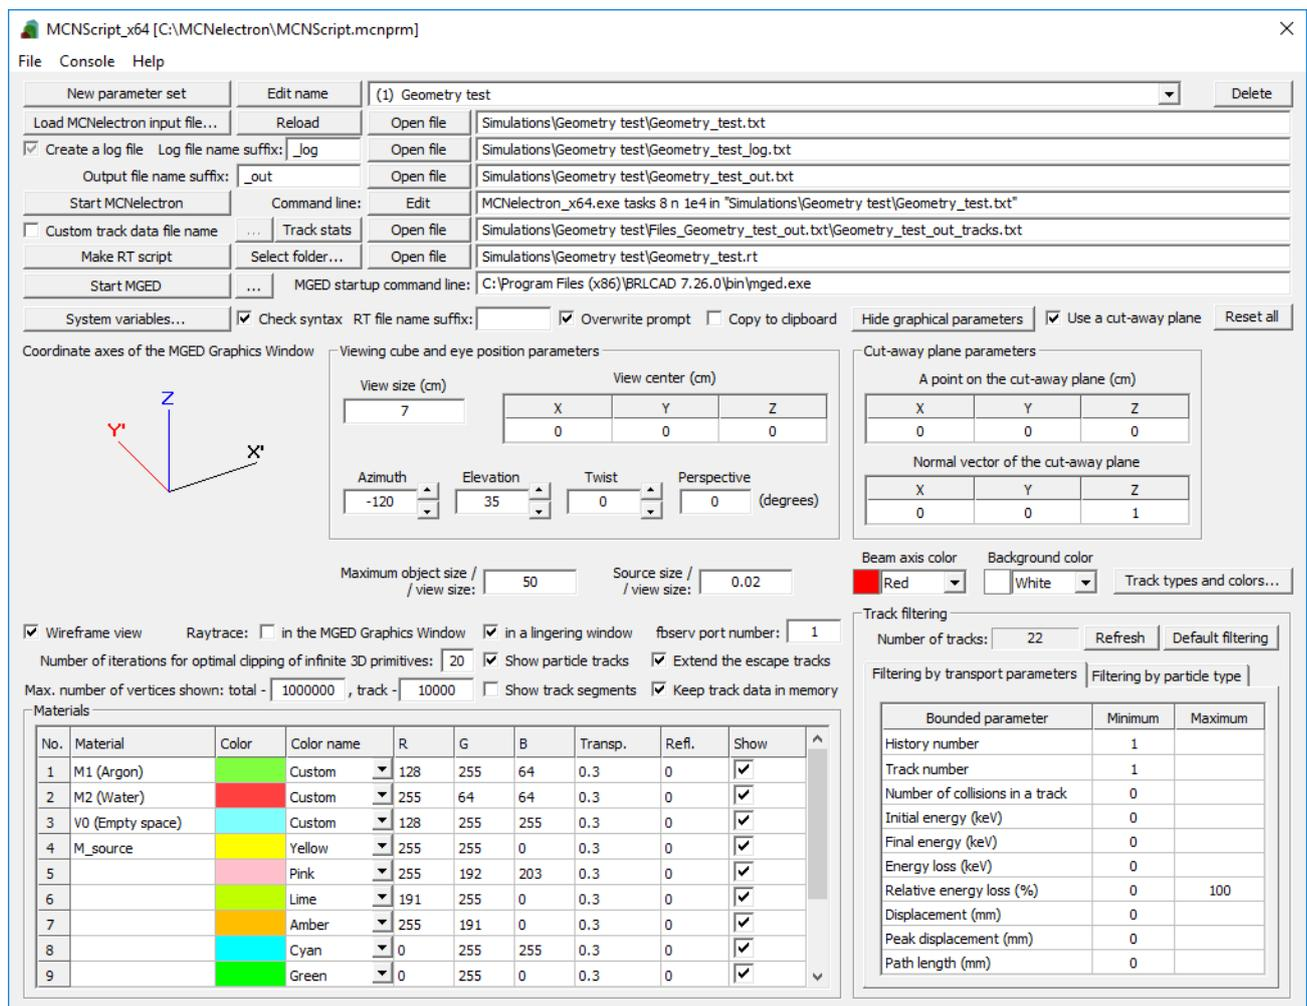
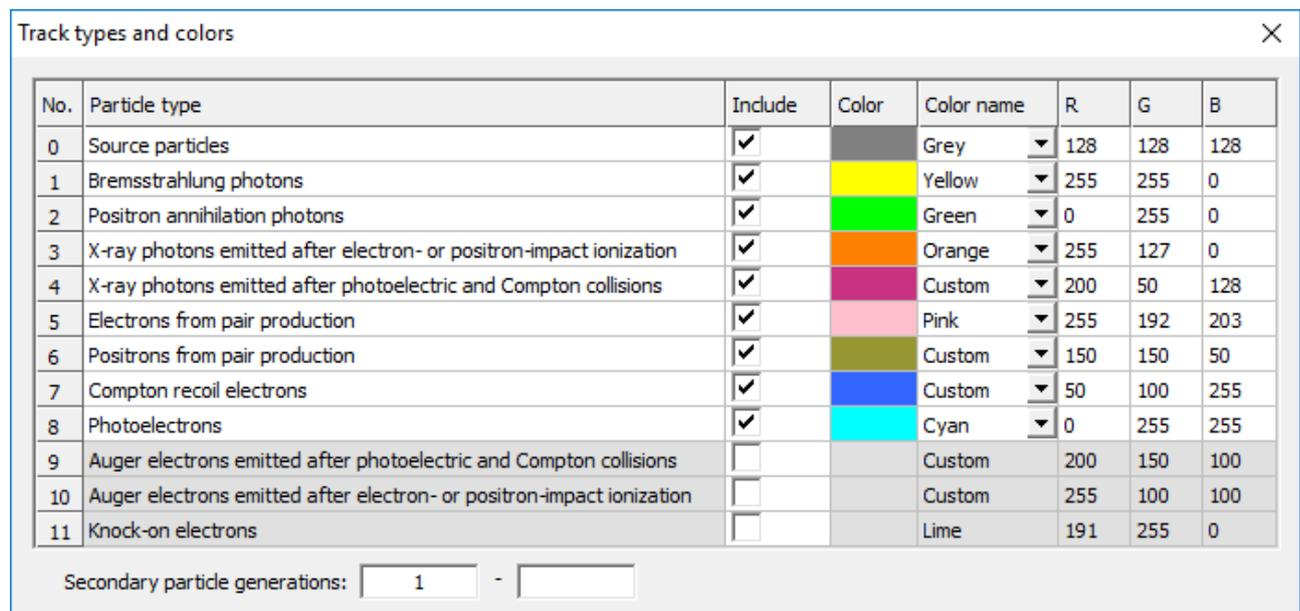

Fig. 2.1. An example of the MCNScript main window.
Fig. 4.3. An example of the dialog window “Track types and colors”.
MCNScript is started by running the executable file MCNScript.exe or MCNScript\_x64.exe (the former is 32-bit, the latter is 64-bit). The main window of MCNScript shows the names of MCNelectron input and output files, the MCNelectron command line and various graphical parameters. All displayed parameters form a “parameter set”. Parameter sets can be selected, created, deleted or renamed using the top row of controls (see Fig. 2.1).
The data of all parameter sets are stored in an ASCII file with extension “.MCNPRM”. Further on, this file will be called “parameter file”. The name of the current parameter file is shown in the title bar of the main window (see Fig. 2.1). Parameter files can be opened or saved using the “File” menu. The name of the parameter file can be specified on the command line used to start MCNScript. If MCNScript is started without any command-line arguments, the parameter file will be assigned the default name “MCNScript.mcnprm” (if there is a file with that name in the folder where the executable file “MCNScript.exe” is located, then it will be opened automatically, otherwise it will be created).
Although the main function of MCNScript is running the simulations with MCNelectron and setting up the initial view of the simulated system geometry and particle tracks in the MGED window, it can also perform elementary statistical analysis of the particle track data calculated by MCNelectron, as well as filter the particle tracks according to various criteria. The calculated track statistics are shown in a dialog window that is opened by clicking the button “Track stats”, which is in the sixth row of controls of the MCNScript main window (see Fig. 2.1). The same dialog window contains two tabs with the data used for track filtering (those tabs are duplicated at the bottom right of the MCNScript main window). The tab “Filtering by transport parameters” contains a grid control with transport parameters (this tab is the active one by default; it is visible in Fig. 2.1), and the tab “Filtering by particle type” contains a set of controls for selecting the types of secondary particles for calculation of the statistics and for display in the MGED Graphics Window.
The graphical parameters control the initial view of the system geometry and particle tracks after loading the RT script created by MCNScript. The view may be modified afterwards using various MGED commands or by re-creating the RT script with a different set of graphical parameters and then reloading it in MGED. The graphical parameters occupy the bottom two thirds of the MCNScript main window (see Fig. 2.1). They can be hidden using the button “Hide graphical parameters”. After clicking this button, the text on it changes to “Show graphical parameters” (see Fig. 2.2). After clicking this button again, the MCNScript main window will be restored to its initial size (with the graphical parameters shown). If an invalid value is entered in any of the numerical text boxes, the previous value is restored. The button “Reset all” (see Fig. 2.1) is used to set all graphical parameters to their default values.
The names of the MCNelectron input file, log file and output file are shown in the three text boxes that are at the end of the second, third and fourth row of controls of the MCNScript main window (see Fig. 2.1). The remaining command-line arguments can be specified in the dialog window “MCNelectron command-line arguments”, which is opened by clicking the button “Edit”, which is in the fifth row of controls (see Fig. 2.1). An example of that dialog window is shown in Fig. 3.1.
By default, the name of the MCNelectron output file is formed by appending the suffix “\_out” to the name of the MCNelectron input file. If this suffix is specified, then the name of the output file will be omitted from the command line (see Fig. 2.1). The mentioned suffix can be modified in the text box “Output file name suffix” (see Fig. 2.1 and Fig. 3.1). If that text box is cleared of any text, then it becomes possible to enter an arbitrary name of the MCNelectron output file directly in the text box where that file name is shown (in this case, the output file name will be specified on the command line, even if that name is the same as the default name). The file name suffix may include the two-character string “%d”, which has a special meaning: if it is present, then it will be replaced by the sequence number of the current parameter set (this number is shown in parentheses before the name of the parameter set in the dropdown list, which is at the top of the MCNScript main window).
By default, the log file name is formed by appending the suffix “\_log” to the name of the MCNelectron input file. This suffix can be modified in the text box “Log file name suffix” (see Fig. 2.1 and Fig. 3.1). In all other respects, the name of the log file is treated in the same way as the name of the output file (see the previous paragraph). The log file name may be specified on the command line only when the tri-state checkbox “Create a log file” is checked or when it is indeterminate (as in Fig. 2.1). This checkbox corresponds to the MCNelectron command-line argument “writeLog”. If that checkbox is indeterminate, this keyword will be omitted from the command line, i.e., the corresponding parameter will be assigned the default value. The checkbox “Create a log file” is duplicated in the MCNScript main window (see Fig. 2.1).
The button “System variables...” (see Fig. 3.1) is used to open the dialog window where the values of the MCNelectron system variables may be specified (see Fig. 3.2). Those variables may be used in the user programs embedded in the MCNelectron input file (see the MCNelectron user manual for details). The “System variables” dialog window is modeless, which means that it may be kept visible while interacting with the other windows of the MCNScript graphical user interface. The button “System variables...” is also present in the MCNScript main window (see Fig. 2.1).
The entire MCNelectron command line is shown in the text box at the end of the fifth row of controls of the MCNScript main window (see Fig. 2.1).
The specified MCNelectron input and output files can be opened by clicking the buttons “Open file”, which are to the left of the text boxes with the file names (see Fig. 2.1 and Fig. 3.1). This action is equivalent to double-clicking the file name in the Windows File Explorer.
After specifying the names of input and output files and entering all other necessary command-line arguments, a Monte Carlo simulation can be started. This is done by clicking the button “Start MCNelectron”, which is at the beginning of the fifth row of controls of the MCNScript main window (see Fig. 2.1). After clicking this button, the Windows command-line interpreter “cmd.exe” window is opened, where all messages of MCNelectron are output (see Fig. 3.3). After finishing the simulation run, the corresponding cmd.exe window is not closed automatically (it must be closed manually). While the cmd.exe window is open, the text on the button “Start MCNelectron” is changed to “Activate the cmd.exe window” (see Fig. 3.3). Afterwards, if the cmd.exe window is minimized or covered by other windows, this button can be used to bring it to the foreground. Each created cmd.exe window is “attached” to the corresponding parameter set. If there are several cmd.exe windows, each of them can be activated by selecting the corresponding parameter set and then clicking the button “Activate the cmd.exe window”. After closing the cmd.exe window, the text on the mentioned button becomes “Start MCNelectron” again. It is possible to “detach” a cmd.exe window from the current parameter set. This is done by right-clicking the button “Activate the cmd.exe window” and selecting “Reset this button” from the context menu. Then the text on that button becomes “Start MCNelectron” again. Afterwards, it will be possible to use this button for starting another simulation without closing the “detached” cmd.exe window.
The sixth row of controls of the MCNScript main window contains the controls related to particle track data calculated by MCNelectron (see the MCNelectron user manual for the description of the format of the track data files and the MCNelectron parameters needed for output of track data). The name of the track data file created by MCNelectron is uniquely defined by the output file name: MCNelectron forms the name of the track data file by appending “\_tracks.txt” to the output file name, and puts the track data file in the subfolder with the name “Files\_<output\_file\_name>”. Consequently, this is the name that is shown in the text box at the end of the sixth row of controls of the MCNScript main window, if the checkbox “Custom track data file name” is not checked (see Fig. 2.1). If the latter checkbox is checked, then it is possible to enter an arbitrary file name in the mentioned text box, or to browse for a track data file using the button “...”, which is in the same row of controls (see Fig. 2.1).
The specified file with track data can be opened by clicking the button “Open file”, which is to the left of the corresponding text box with the file name (see Fig. 2.1). This action is equivalent to double-clicking the file name in the Windows File Explorer.
The button “Track stats”, which is in the sixth row of controls of the MCNScript main window (see Fig. 2.1), is used for selecting a subset of particle tracks according to various criteria and for elementary statistical analysis of that subset. An example of the “Track statistics” dialog window, which is opened by clicking the button “Track stats”, is shown in Fig. 4.1.
The two tabs of the “Track filtering” group of the “Track statistics” dialog window are duplicated in the lower right of the main MCNScript window (see Fig. 2.1). The changes of the filtering parameters done in the “Track statistics” dialog window will be carried over to the main MCNScript window only after clicking “OK” in the “Track statistics” dialog window.
The functionality of filtering by particle type is also provided by the dialog window “Track types and colors”, which is opened by clicking the button “Track types and colors...” in the MCNScript main window (see Fig. 2.1). An example of the dialog window “Track types and colors” is shown in Fig. 4.3. It has the same checkboxes and text boxes as the tab “Filtering by particle type” (see Fig. 4.2b), as well as the controls for selection of track colors for different track types. Below is the explanation of the meanings of all columns of the grid control that is in the dialog window “Track types and colors”:
If particle tracks have to be displayed in the MGED Graphics Window, then the MGED commands for drawing each type of tracks will be placed into a separate script file. The initial part of the name of each of those files is the same as the name of the main script file (i.e., it is the name of the MCNelectron input file with the appended suffix), and the last part of the track script file name has the format “\_tracks<n>\_<string>.txt”, where “<n>” is the track type number, and “<string>” is a short sequence of characters describing the track type. For example, the name of the file with photoelectron tracks ends with “\_tracks8\_photoel.rt”. The type numbers are shown in the first column of the grid control in the dialog window “Track types and colors” (see Fig. 4.3). Each of those track scripts will be loaded automatically when executing the main script, because the main script contains the MGED commands for loading each of the created track script files.
- If the checkbox “Show particle tracks” is checked, then the particle tracks satisfying the filtering criteria will be shown in the MGED Graphics Window. Each particle track is shown as a piecewise-linear curve starting at the point of entry of a source particle into a cell of the geometry, or at the point of creation of a secondary particle, with each linear segment representing free flight of the particle between two collisions. The color of those lines is specified in the dialog window “Track types and colors” (see Fig. 4.3 in Section 4.2). In general, not all tracks are shown, but only the ones that satisfy the filtering criteria defined in the two tabs, which are at the bottom right of the MCNScript main window (see Fig. 6.8). Those tabs are duplicated in the dialog window “Track statistics” (see Section 4.2). The number of the tracks satisfying the filtering criteria is shown in the text box “Number of tracks”, which is above the mentioned tabs, after clicking the button “Refresh” (see Fig. 6.8). In order to apply the default (minimal) filtering, the button “Default filtering” must be clicked (see Fig. 6.8). This would remove any constraints on transport parameters (as shown in Fig. 6.8) and most of the constraints on the included track types (as shown in Fig. 4.3 in Section 4.2). For more information about track filtering, see Section 4.2.